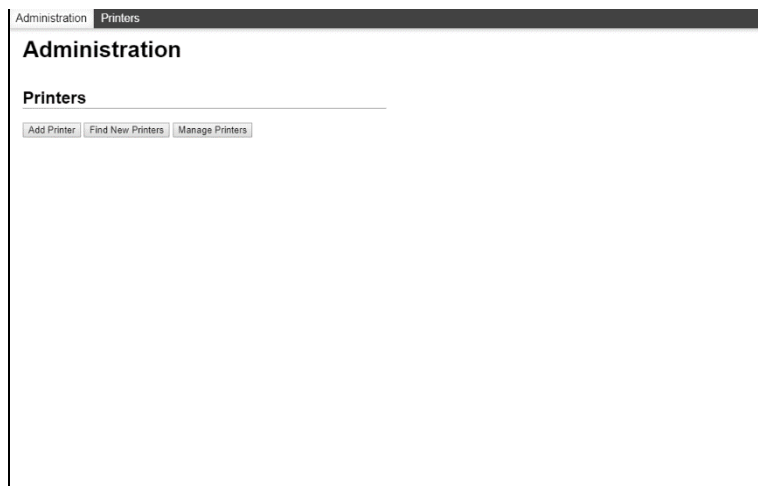

Fig. 130 - Administration panel
- *Administration* (Fig. 130)
Press the Add Printer button in the Administration Panel shown in Fig. 130: after a while, the panel Add Printer appears. In this panel, there are three sections: